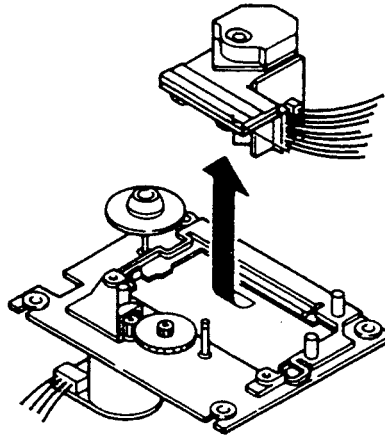

Fig. 6
5. Remove the pickup (See Fig. 6).